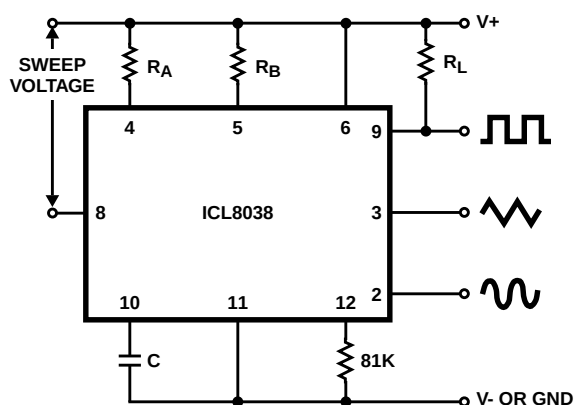

FIGURE 5B. CONNECTIONS FOR FREQUENCY SWEEP
- The hi and lo frequencies can be obtained by connecting pin 8 to pin 7 (f_{HI}) and then connecting pin 8 to pin 6 (f_{LO}). Otherwise apply Sweep Voltage at pin 8 ($\frac{2}{3} V_{SUPPLY} + 2V$) $\leq V_{SWEEP} \leq V_{SUPPLY}$ where V_{SUPPLY} is the total supply voltage. In Figure 5B, pin 8 should vary between 5.3V and 10V with respect to ground.
For larger FM deviations or for frequency sweeping, the modulating signal is applied between the positive supply voltage and pin 8 (Figure 5B). In this way the entire bias for the current sources is created by the modulating signal, and a very large (e.g. 1000:1) sweep range is created ($f = 0$ at $V_{\text{SWEEP}} = 0$). Care must be taken, however, to regulate the supply voltage; in this configuration the charge current is no longer a function of the supply voltage (yet the trigger thresholds still are) and thus the frequency becomes dependent on the supply voltage. The potential on Pin 8 may be swept down from $V+$ by $(1/3 V_{\text{SUPPLY}} - 2V)$.